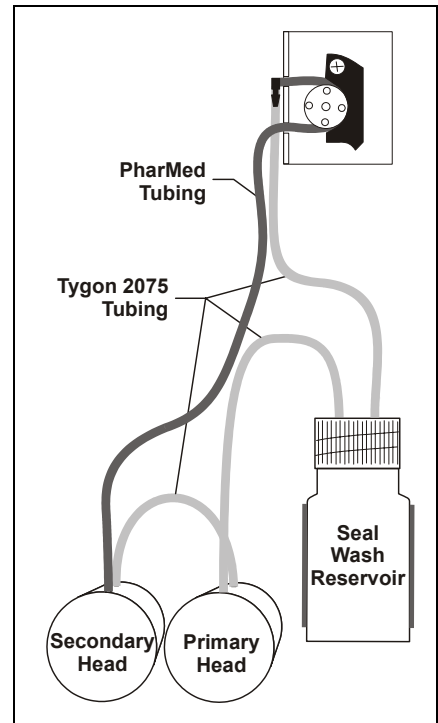

*Figure 9-7. Peristaltic Pump for Seal Wash System*
3. Remove the old tubing from the peristaltic pump (see Figure 9-7) as follows: